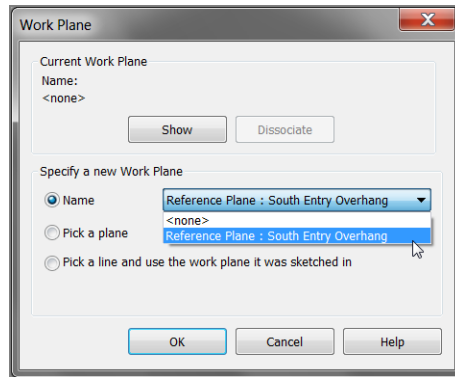

FIGURE 7.50: Selecting the South Entry Overhang reference plane
2. When you start the command, Revit asks you to specify a reference plane. Select **Reference Plane: South Entry Overhang** from the Name drop-down list, as shown in Figure 7.50.